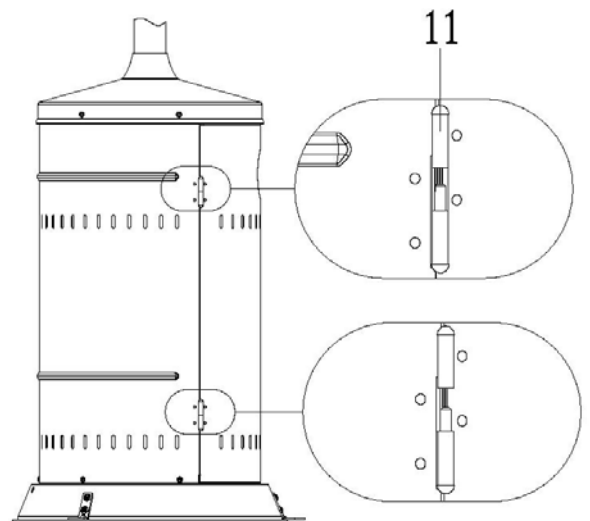

Figure 2
- SETP 6:** Fix the door to housing. (See Figure 2 and Detail Abb. F)